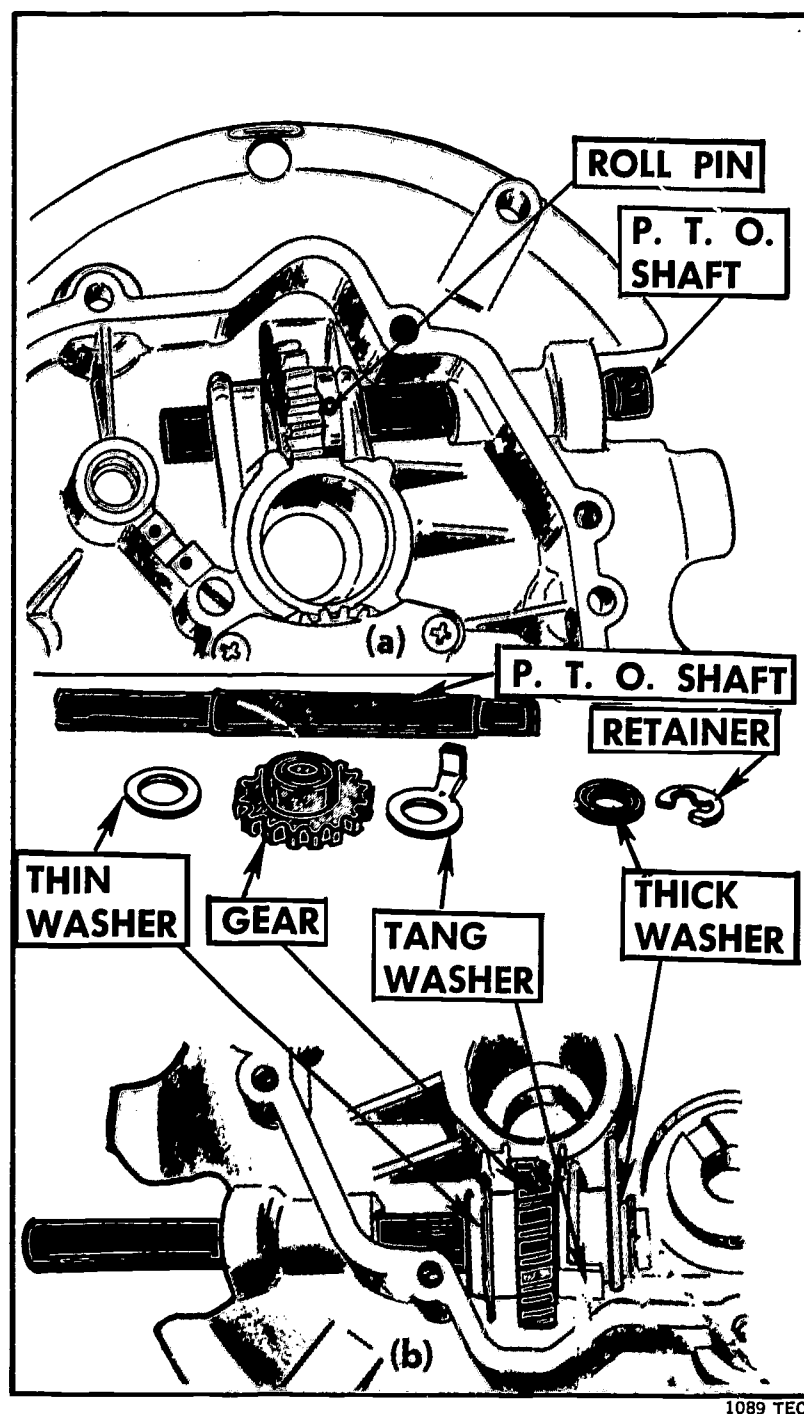

FIGURE 307. Two methods for removing a power take-off shaft are (a) punching out a roll pin, and (b) removing a shaft retainer.
10. Remove the power take-off shaft, if installed (Figure 307).